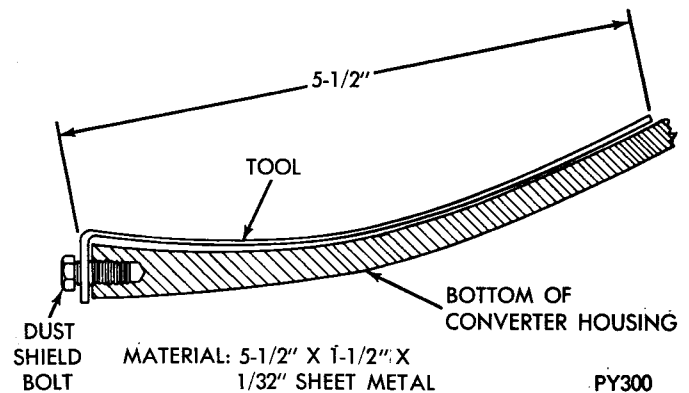
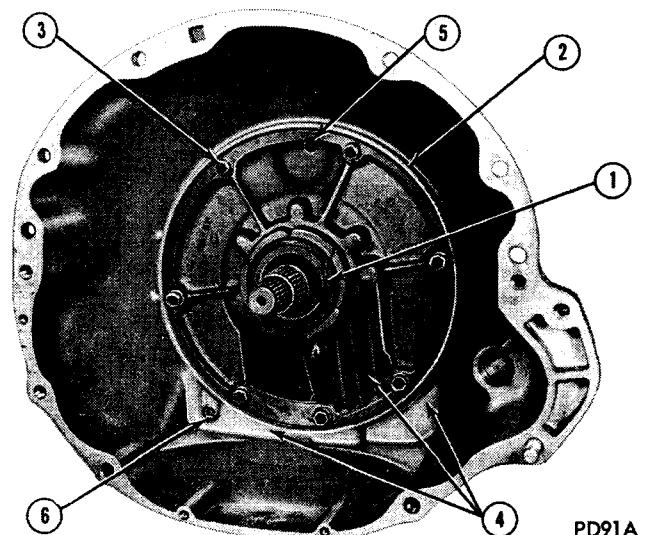

Fig. 4—Leak Locating Test Probe Tool
Fig. 5—Transmission Converter Area
(1) Remove converter housing dust shield.
(2) Position vehicle with front lower than back so that accumulated fluid in converter housing will drain out. Wipe bottom inside of converter housing as dry as possible. A solvent spray followed by compressed air drying is preferable.
(3) Fabricate and fasten test probe (Fig. 4) securely to convenient dust shield bolt hole. Make certain converter is cleared by test probe. Tool must be clean and dry.
(4) Run engine at approximately 2,500 rpm with transmission in neutral, for about 2 minutes. Transmission must be at operating temperature.
(5) Stop engine and carefully remove tool.
(6) If upper surface of test probe is dry, there is no converter leak. A path of fluid across probe indicates a converter leak. Oil leaking under the probe is coming from the transmission converter area (Fig. 5).
(7) Remove transmission and torque converter as-
Possible sources of transmission converter area fluid leakage shown in (Fig. 5) are: